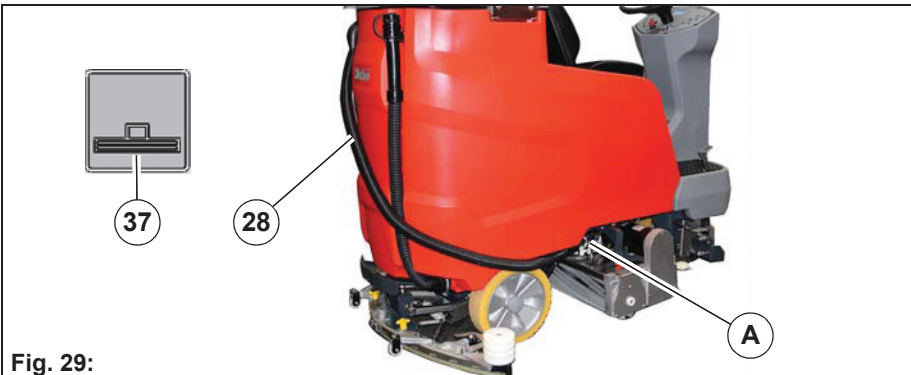

Fig. 29:
4. Remove the suction hose **Fig. 29-28** from the squeegee **A** and plug it onto the filter housing **Fig. 29-A**.